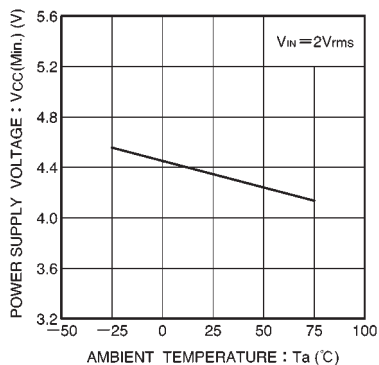

Fig. 6 16th point lighting limit power supply voltage vs. ambient temperature
(1) Adjust the potentiometers VR_1 and VR_2 (connected to pins 1 and 3) to adjust the 0dB input level and the dispersion of ch1 and ch2.
(2) The temperature characteristic for the lighting limit for the 16th LED is shown in Fig. 6.